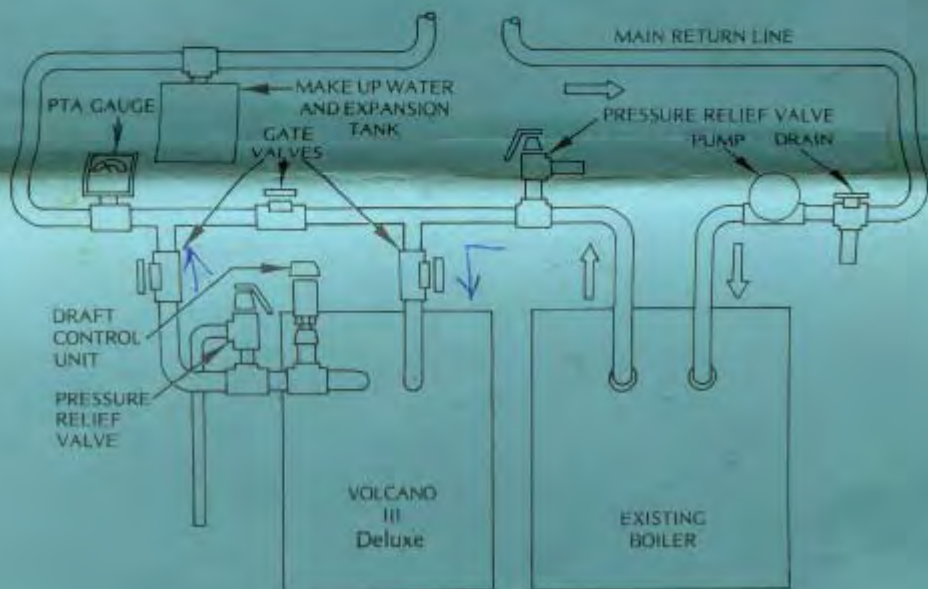

Fig. 2
5. Cut into the main supply line and install 3 gate valves and the PTA gauge as shown in Fig. 2. Locate cuts so that the left pipe coming out of the rear of the Volcano III Deluxe will have a continuous rise up to the radiators above.
shown in Fig. 2. Connect the Volcano III Deluxe to the gate valves.